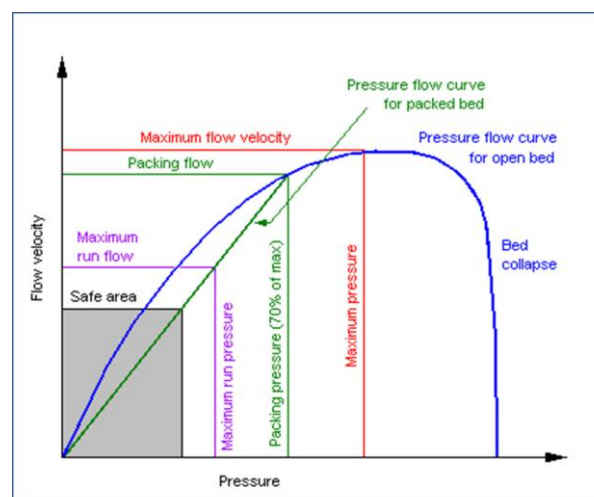

Figure 1. Theory: flow-pressure curve.
The flow-pressure method is performed to determine the relation between the pressure over column (ΔP) and the flow rate for a specific column and resin setup. An open bed is used, which means that the adaptor is not adjusted to contact the resin surface. The method is carried out by pumping water through the column at increasing pressure steps (the pressure is stabilized for ≥ 1 column volume (CV) before the next pressure step is initialized) until the bed collapses and the collapse point in terms of critical flow-critical pressure is reached. The interval that includes the collapse point can be determined as the place from which the linearity of the pressure ends until the place where the pressure increases unabated. The pressure increment steps around the critical point where the plateau is reached must be very small. The flow-pressure data obtained will later be used to determine the maximal flow rate, packing flow rate and maximal running flow rate for the resin. The corresponding pressure data will also be obtained, see Figure 1.